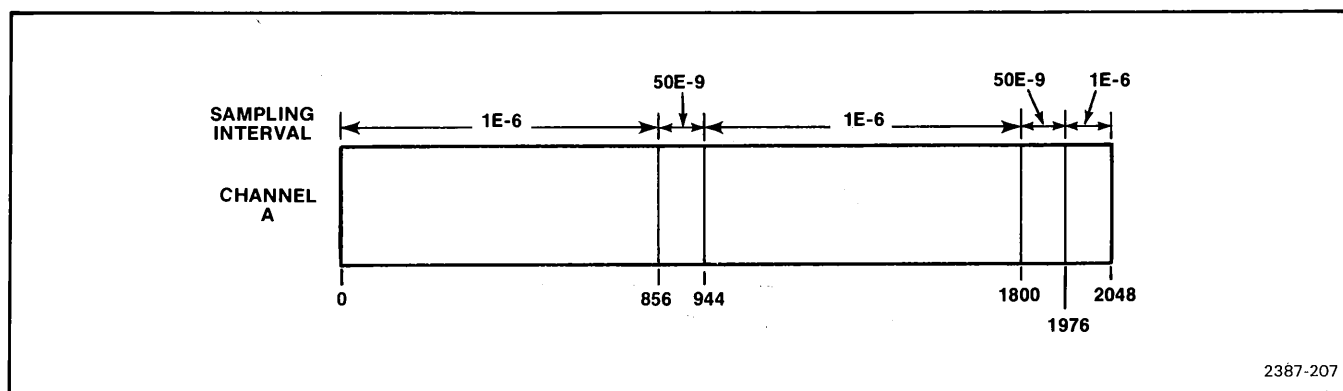

Figure 2-7. Memory segmenting for the breakpoints set in the example procedure.
16. Press the < key twice more to display the next two lower breakpoints and sample intervals. Pressing < again displays the fixed breakpoint at location zero and the sampling interval for the first segment. Figure 2-7 illustrates the memory segments as set in the above steps.